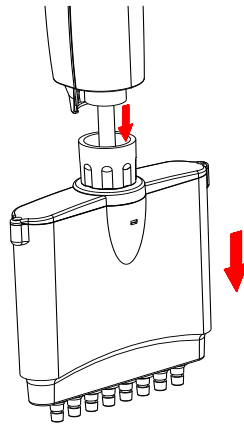

Figure 12: Pull the lower part downward **slowly** until the cylinder lock appears.
3. Pull the lower part downward **slowly** until the cylinder lock appears as shown in Figure 12.